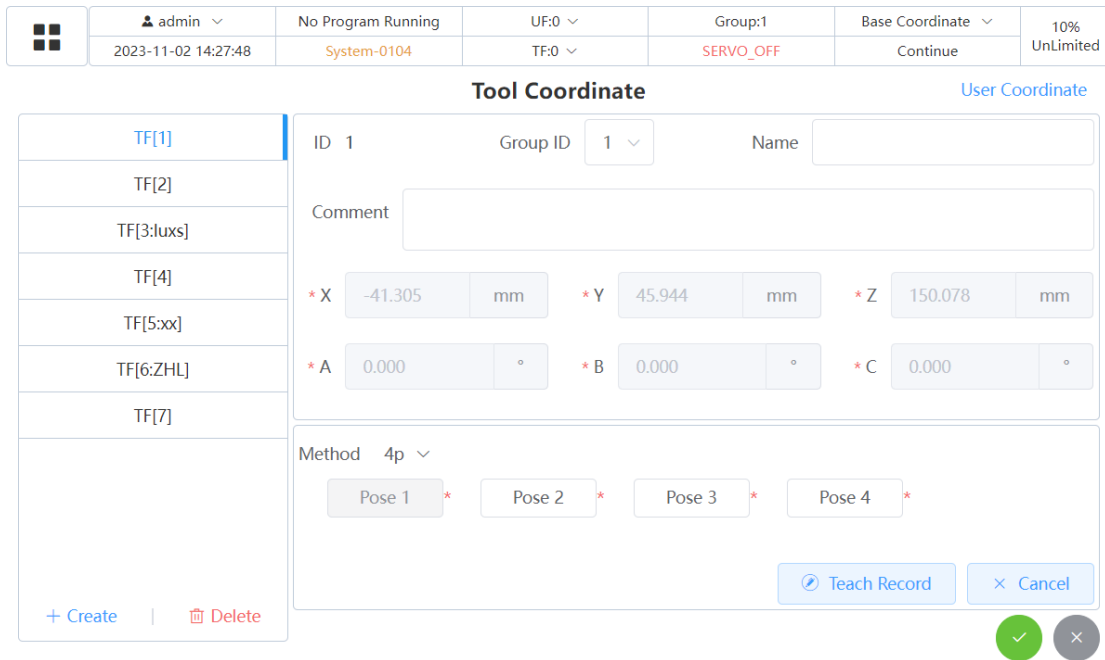

Fig. 2.19 Tool Coordinate System Setting Interface
1. Click "Menu Button" → "Coordinate System" → "Tool Coordinate System" to enter the interface as shown in Fig. 2.19, and then select the 4P method.